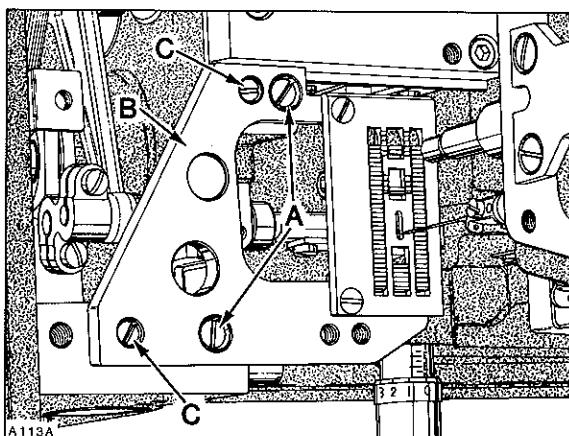

Fig. 12
Feed dog should be centered in throat plate with equal clearance on both sides and ends. At highest point of travel, feed dog teeth should extend the depth of a full tooth, or approximately  $3/64$  inch (1.2mm) above throat plate. MINOR (right to left) adjustments can be made by loosening two screws (A, Fig. 12) in throat plate support (B).